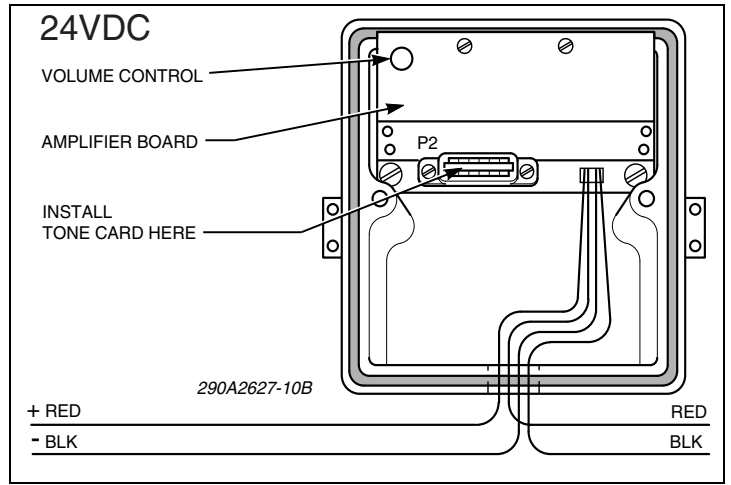

Figure 3: Tone/Connector Card Installation
2. Plug the desired tone card into the socket as shown in figure 3.
2. Plug the desired PTCK connector card (purchased separately) into the socket as shown in figure 3.